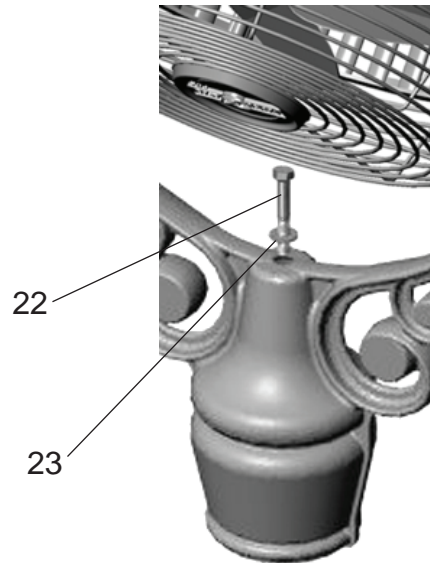

Fig. 27
1. Loosen 5/16-18 x 2½" bolt (Item #22) on Motor Assembly. Position Motor Assembly to desired position and retighten bolt (Fig. 27)